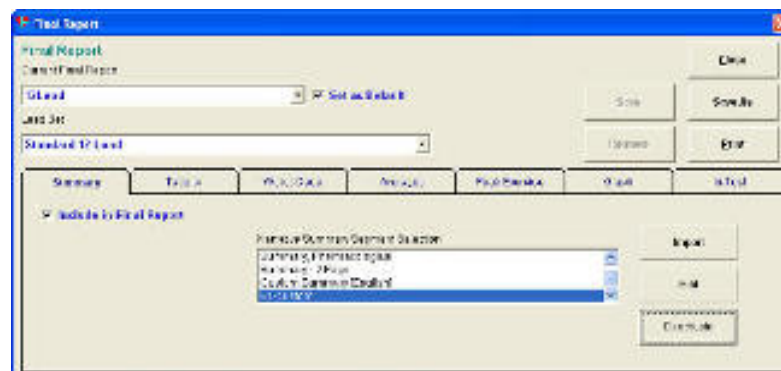

Figure 11-5: Example of removing a custom report page
1. In the Final Report Summary screen, select a custom form other than the master form (Figure 11-5).